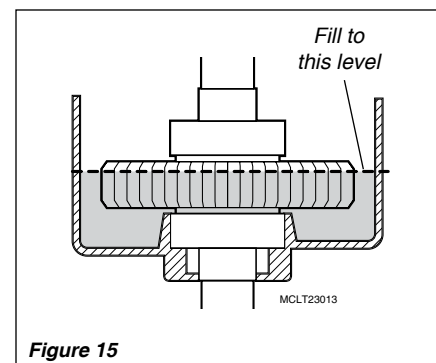

Figure 15
5. Place the gear case on the RH side and supported so the outer tube is parallel to the ground. Refill the gear case with 60 cc (2.0 fl.oz) of Mobil SHC634 Synthetic Gear Oil to the bottom of the chamfer on the output gear. The correct oil depth is 5/8" (15.5 mm). See Figure 15. **DO NOT OVERFILL!**